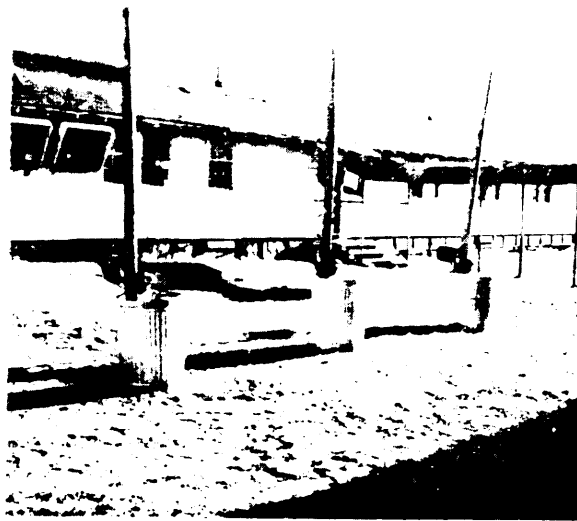

Figure 42 - Mess Kit Cleaning Operation (Additional Prewash Can May Be Used If Required)
A. Operations.- The detergents used for field dishwashing are the same as those used for hand dishwashing operations. MACHINE DISHWASHING COMPOUNDS SHOULD NEVER BE USED FOR FIELD DISHWASHING. The temperature of the wash solution should be maintained at a minimum of 130°F. The prerinse and rinse temperatures should be maintained at the boiling point of water. Proper scrapping and washing are important steps in field dishwashing. Dishwashing Compound, Hand, FSN 7930-281-4731 (50 lb. sack) should be used in field dishwashing procedures. The arrangement recommended for the field washing of mess kits consists of three 32-gallon galvanized steel corrugated cans, each with an immersion heater for use in field dishwashing (Figure 42). (See TM 10-4540-201-15 for operating instructions of the immersion heater). An additional 32-gallon can may be used as a prewash solution (change frequently) if the mess kits are extremely dirty. Each group of three or four cans is capable of washing the mess kits of approximately 80 persons. Mess kit should be individually washed in the field according to the following procedures: